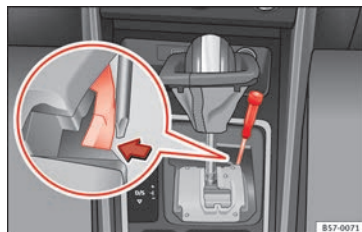

Fig. 54 Selector lever: manual release from position P.
- Using a screwdriver, press and hold the yellow unlocking tab sideways »» Fig. 54.